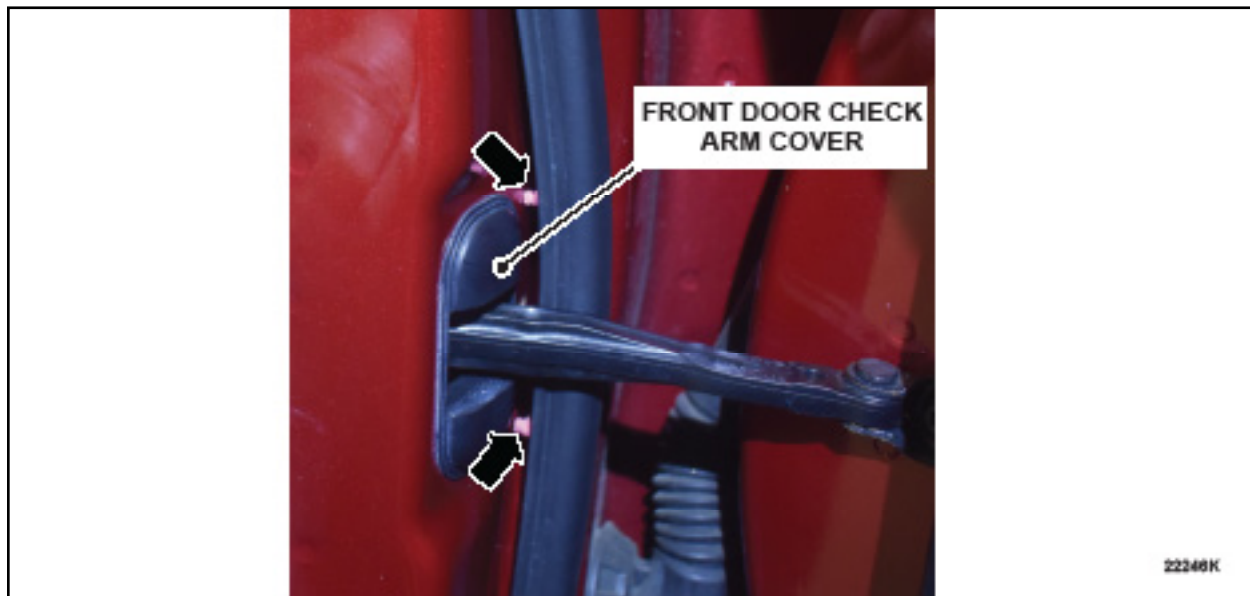

FIGURE 1
2. On both sides, open the front door and detach the two (2) closest push pins from the front door mounted weatherstrip as shown in Figure 1.
**NOTE:** Left Hand (LH) side shown, Right Hand side similar.